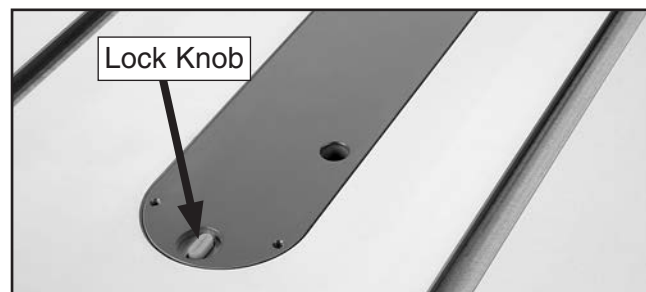

Figure 14. Insert lock knob unlocked.
10. Turn lock knob that secures table insert so it is parallel to inner slot, as shown in **Figure 14**, then remove insert and set it aside.